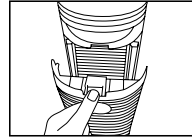

Fig. 5
1. Open the rear grill by gently pushing down on the tab on the top of the grill plate. Fig. 5